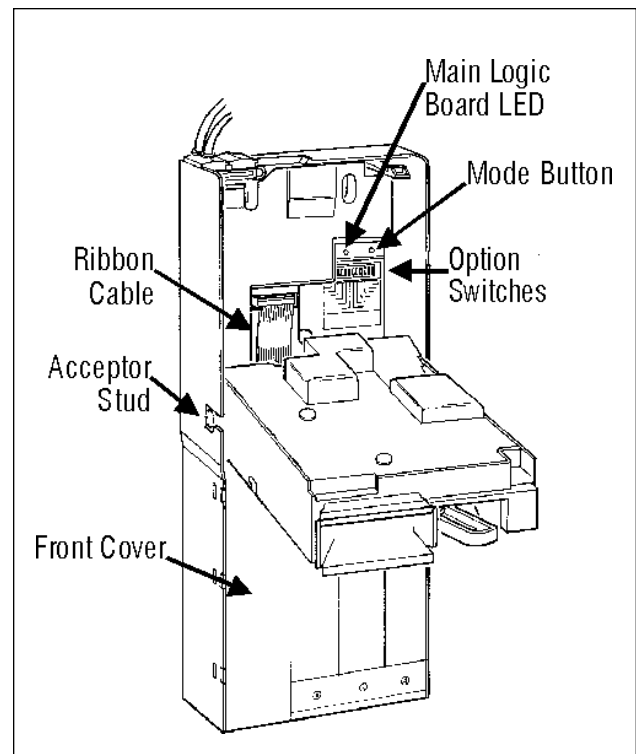

Figure 2
4. Replace the acceptor by inserting bottom acceptor studs into changer housing guides. Plug the ribbon cable into the changer (see Figure 2).
7. Set the desired vend price and options on the changer (see Figure 2). Refer to "Setting The Vend Price" and "Option Switch Module" section of this manual.
Located behind the acceptor on the middle right hand side of the changer housing are twelve switches (see Figure 2). The first eight are used to set the vend price (see “Setting The Vend Price” section of this manual).
4. After setting the desired vend price on the Option Switch Module, press and release the Mode Button (see Figure 2). The changer’s Main Logic Board LED and the “Use Correct Change” light will begin to flash.